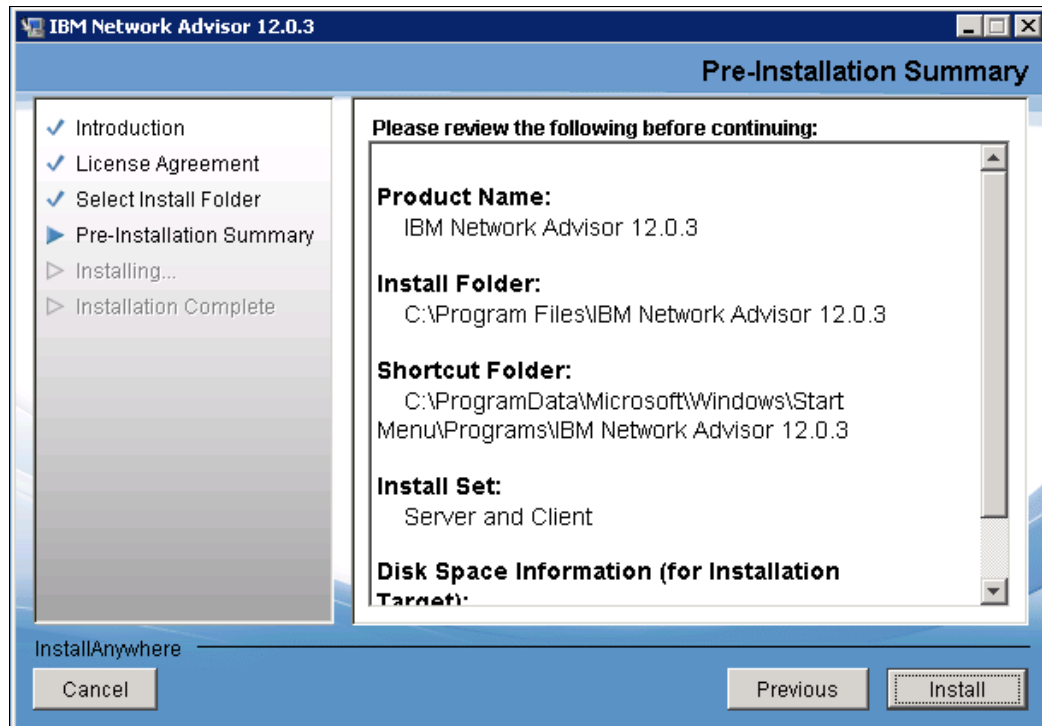

Figure 3-3 Pre-Installation Summary window
4. After you select the target location, the Pre-Installation Summary window opens, as shown in Figure 3-3. This window describes the product and the target location.